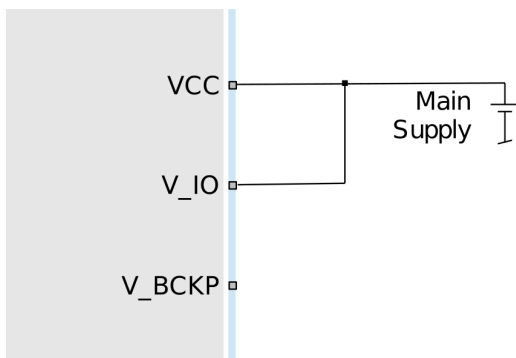

Figure 11: VCC and V_IO connected to the main supply. No external power supply at V_BCKP.
Power supply at VCC and V_IO must be present for normal operation. These two pins must be connected together (see Figure 11).
-  If the HW backup mode is not used, leave the V_BCKP pin open (see Figure 11).